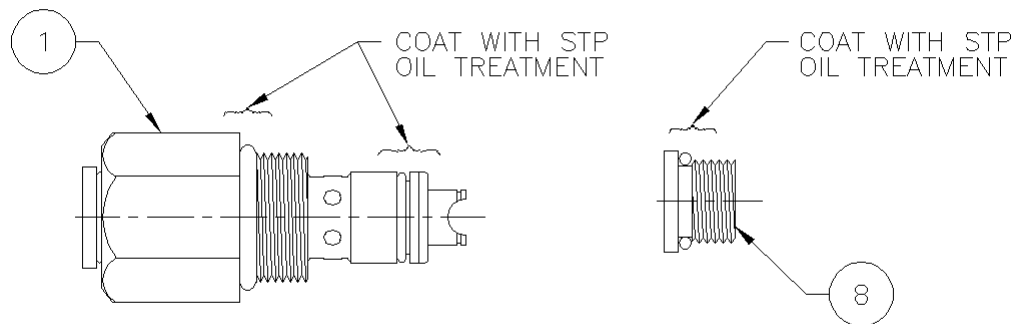
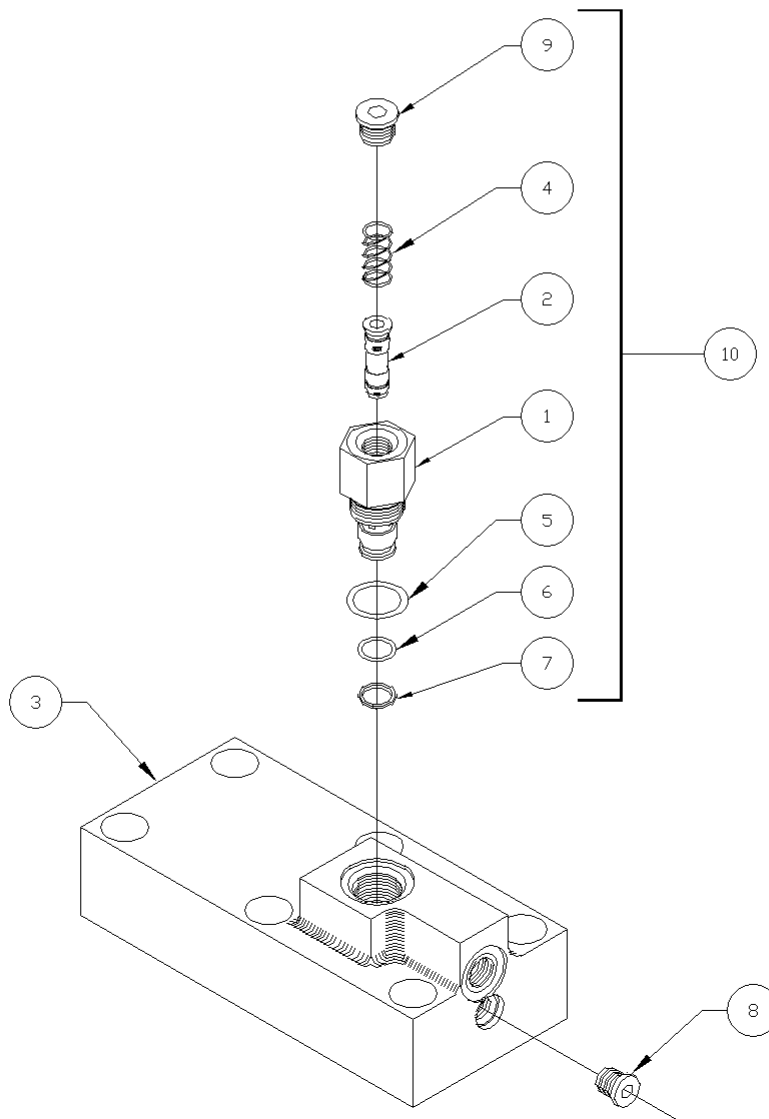

Figure D-3
Figure D-4
Before starting the assembly of the Slowdown, refer to the exploded parts drawing and parts list (Figure D-4) found at the end of these instructions) to familiarize yourself with the individual components. Prepare a clean surface in an area free from blowing dust and contaminants in which to assemble the Slowdown. Be sure that all parts are clean and dry before starting assembly.
- Coat the o-rings on the plunger housing (1) (Figure D-3) and the o-ring on the o-ring plug (8) with STP Oil Treatment. Screw the plunger housing (1) into the top of the rack cap (3) (Figure D-4) and torque to 30 in-lb. Screw the o-ring plug (8) into the side of the rack cap (3) in the bottom port and tighten.